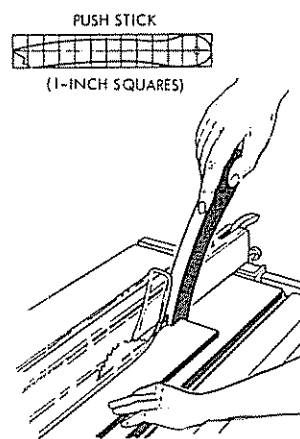

Figure 60
5. When the distance between the fence and saw blade is less than the width of your palm, do not attempt to push work through by hand. Use a push stick or pull work through from behind saw. (See figure 60.)